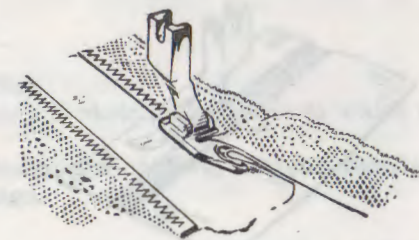

Fig. 42
d) HEMMING AND SEWING ON LACES (Fig. 42)